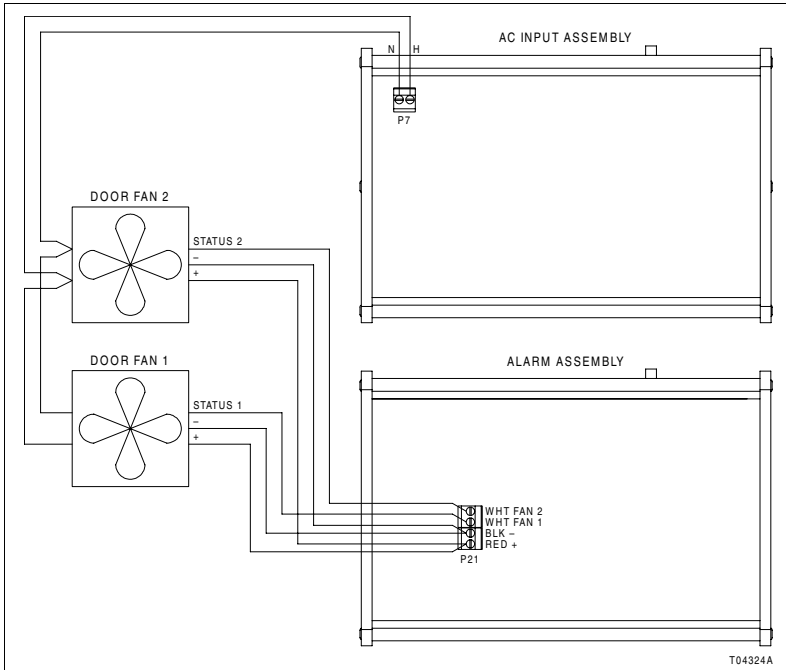

Figure PR8-1. Door Fan Power and Status Wiring
- 1. Connect the AC power wires from the door fan to connector P7 of the AC input assembly as shown in Figure PR8-1. The terminals accept stripped wires up to 3.3 square-millimeter (12 AWG). If there are two door fans, the AC power inputs for the fans should connect in parallel then connect to the AC input assembly.
- 2. Connect the red (+) and black (-) wires from door fan one to connector P21 of the alarm assembly as shown in Figure PR8-1. The alarm assembly provides 5 VDC on the positive wire and BLC common on the negative wire.
- 4. Connect the white status wire from door fan one to connector P21-FAN1 of the alarm assembly as shown in Figure PR8-1.
- 5. If there are two door fans, connect the white status wire from door fan two to connector P21-FAN2 of the alarm assembly as shown in Figure PR8-1.